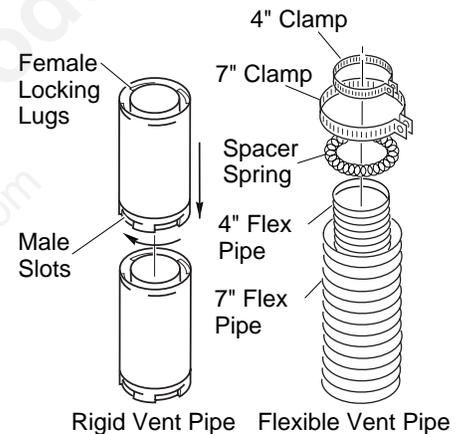

Figure 11 - Vent Pipe Connections
mately one-quarter turn until the sections are fully locked. See Figure 11. *Note:* Horizontal runs of vent must be supported every three feet. Use wall straps for this purpose.
Flexible vent pipe must be installed with spacer springs every 12". See Figure 11. All connections must be clamped tightly and sealed with high temperature silicone sealant as specified in the second warning on page 7.
- Assemble the desired lengths of pipe and elbows necessary to reach from the fireplace flue up through the firestop. All connections must be sealed with high temperature silicone sealant as specified in the second warning on page 7. Be sure all pipe and elbow connections are fully twist-locked (see Figure 11, page 8).